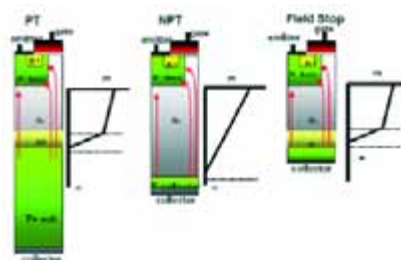

Figure 1. Advance of IGBT structures.
Furthermore the field stop (FS) concept has been applied to the NPT IGBT structures in order to maximize benefits of the thin wafer technology as well as the principle of punch-through [1]. In Figure 1, advances of IGBT structures are shown according to thin wafer technology progress.
Other than the collector, the IGBT structure shown in Figure 1 is similar to that of a vertical MOSFET. The on and off states of IGBTs are controlled by the gate voltage. When the gate voltage is greater than the threshold voltage, an inversion layer is formed under the gate, supplying electrons from the emitter to the drift region so that holes are inject-